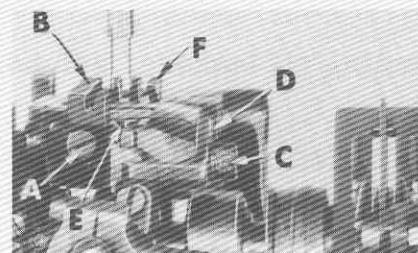
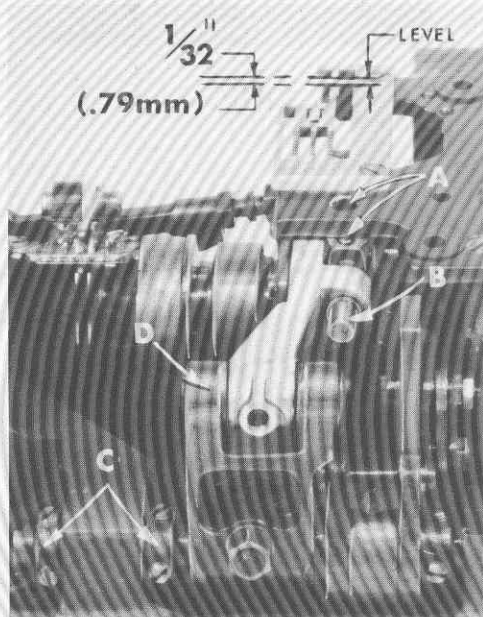
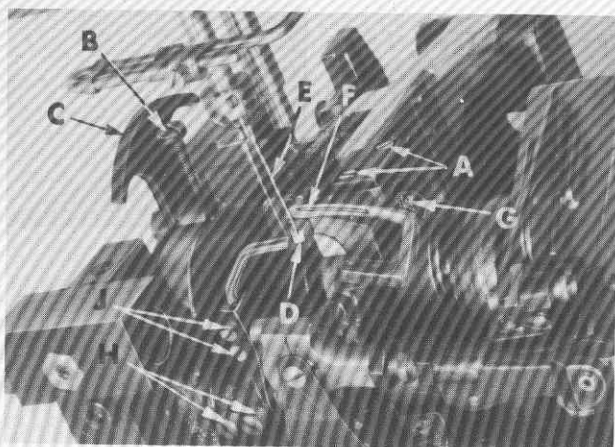
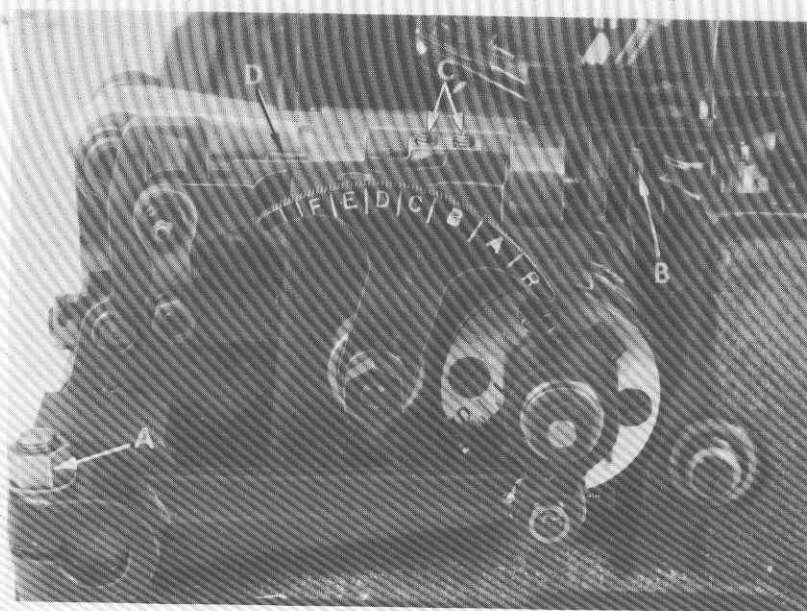

Fig. 9
Fig. 10
Fig. 11
Fig. 12
The differential feed dog should be set to rise the depth of a full tooth or approximately $\frac{3}{64}$ inch (1.19mm) above the throat plate at highest point of travel. Adjustment can be made by loosening screw (A, Fig. 9 or B, Fig. 12), raise or lower feed dog (B, Fig. 9) and retighten screw. At maximum feed travel, the feed dog should clear the forward end of throat plate by $\frac{1}{32}$ inch (.79 mm) Fig. 10; also parallel to the top surface of throat plate and centered in throat plate slot across-the-line-of-feed. Adjustments can be made by loosening set screws (A, Fig. 10 or C, Fig. 12), permitting the differential feed bar (B, Fig. 10 or D, Fig. 12), to be moved forward, backward or rotated as needed to acquire the aforementioned conditions. Under extreme circumstances it may be necessary to shift the complete feed mechanism slightly, to the right or left to meet these conditions. This can be done by loosening collars (C, Fig. 10) and moving feed rocker (D); retighten collars and set screws securely. Make sure the feed rocker arm does not bind after making this adjustment.
To raise or lower main feed dog, loosen Allen screw (C, Fig. 9) allowing feed dog holder (D) to be moved. NOTE: Screw (E) must be set to support the main feed dog (F) when specified height is obtained. Retighten screw (C).
To center main feed dog in the slots of throat plate across-line-of-feed, loosen screws (A, Fig. 11), move feed dog to the right or left as required, retighten screws. To center the feed dog in-line-of-feed, loosen nut (A, Fig. 12) and move feed rocker forward or backward as needed, retighten nut.
The differential feed ratio is set by loosening screw (B, Fig. 11) and move the selector slide (C) to the desired position. The screw and selector slide are accessible through the top of the cloth plate on the left side. Moving the differential feed selector slide (C) toward the front increases the amount of differential and moving it toward the rear decreases the amount of differential feed. Retighten screw.
Set the rear needle guard (D, Fig. 11) horizontally so that it does not quite contact the rear of the right needle (E) when at its most forward point of travel. A clearance of .005 inch (.13 mm) is permissible. It should be set as low as possible, yet have its vertical face approach within about 3/64 inch (1.19 mm) of the needle, until the point of the looper (F), moving to the left, is even with the needle. To move needle guard, merely loosen screw (G), move needle guard as required, and retighten screw.
Set the front needle guard so that it pushes the left needle back toward the path of the looper as it moves behind the needle. The looper may brush but not pick at the left needle. It should be set as low as possible, yet have its vertical face push the left needle until the point of the looper is just past the left side of the left needle. The front needle guard should not contact the rear needle guard or right needle at any time. To move guard forward or backward, merely loosen screws (H, Fig. 11) move needle guard as required and retighten screws. To raise, lower or rotate needle guard, loosen screws (J), move guard and retighten screws after guard is properly set.